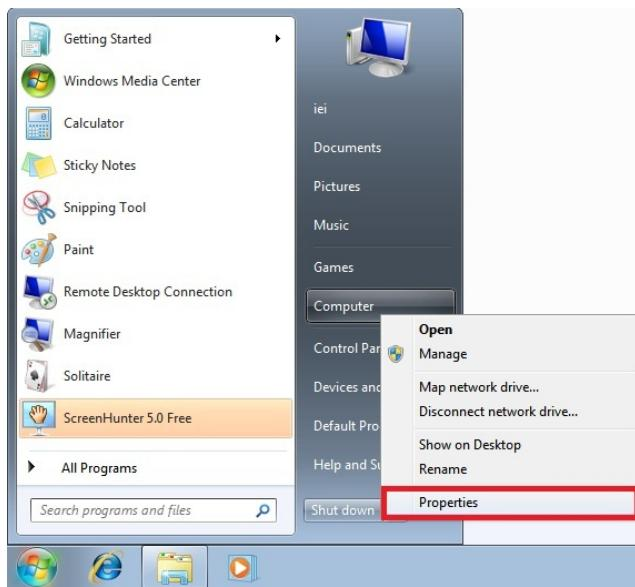

Figure 6-13: Windows Control Panel
Step 1: Right-click the Computer button from the start menu and select **Properties** (**Figure 6-13**).